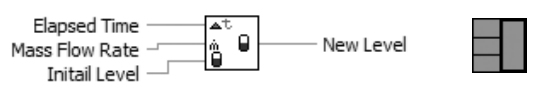

Figure 1.6
- In order to use a VI as a subroutine in the block diagram of another VI, it must have an *icon* with a *connector* (see Figure 1.6). A VI that is used within another VI is called a *subVI* and is analogous to a subroutine. The icon is a VI's pictorial representation and is used as an object in the block diagram of another VI. A